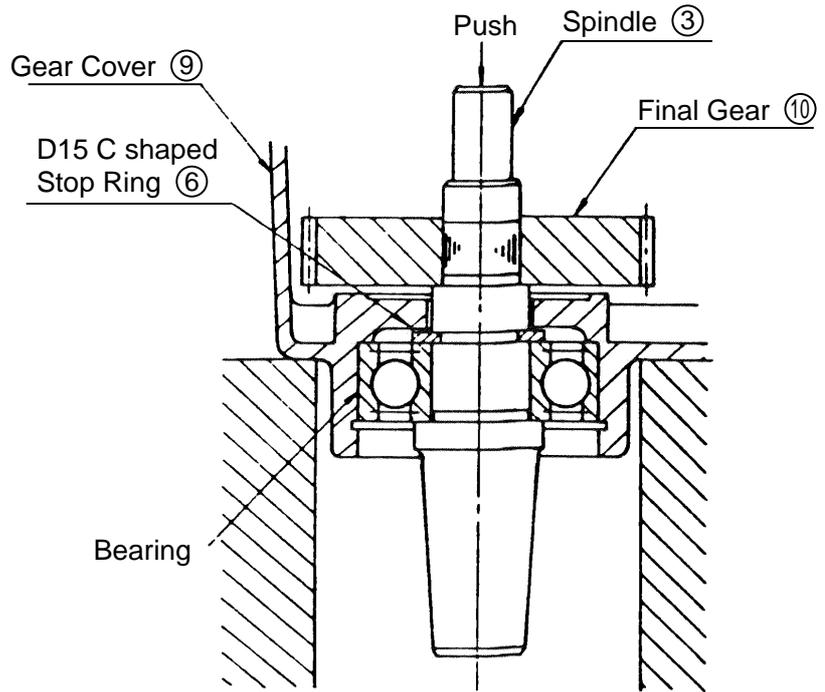

Fig. 7-3
- A. The Second Pinion Ass'y ⑫ and Washer ⑬ can be removed from the Gear Cover ⑨ by lightly tapping the end of the Gear Cover with a wooden hammer.
- B. Remove the D35 C-shaped Stop Ring ④ retaining the Bearing ⑤. Then, as illustrated in Fig. 7-3, support the Gear Cover with a tubular jig, and push down on the end of the Spindle ③ to remove the Final Gear ⑩. The Bearing ⑤ can be removed from the Spindle by removing the D15 C-shaped Stop Ring ⑥.